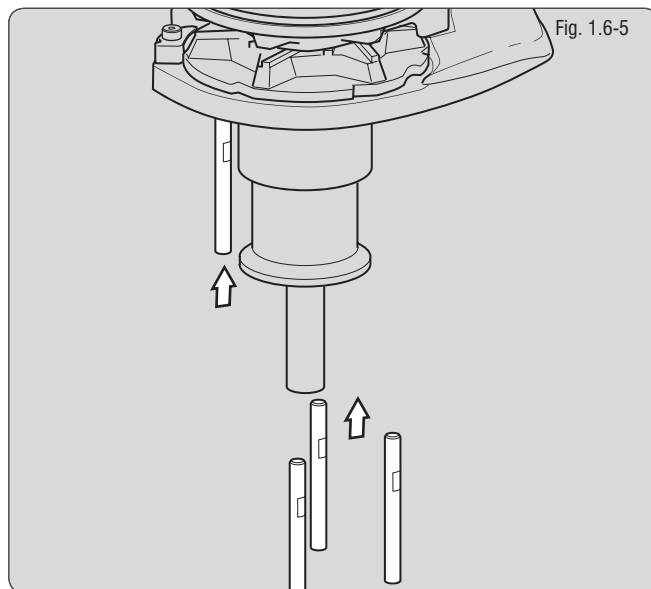

Fig. 1.6-5
- Fully screw the four mounting studs into the base of the windlass. Screw the studs into the base finger tight, with the flats towards the base as shown (Fig 1.6-5).